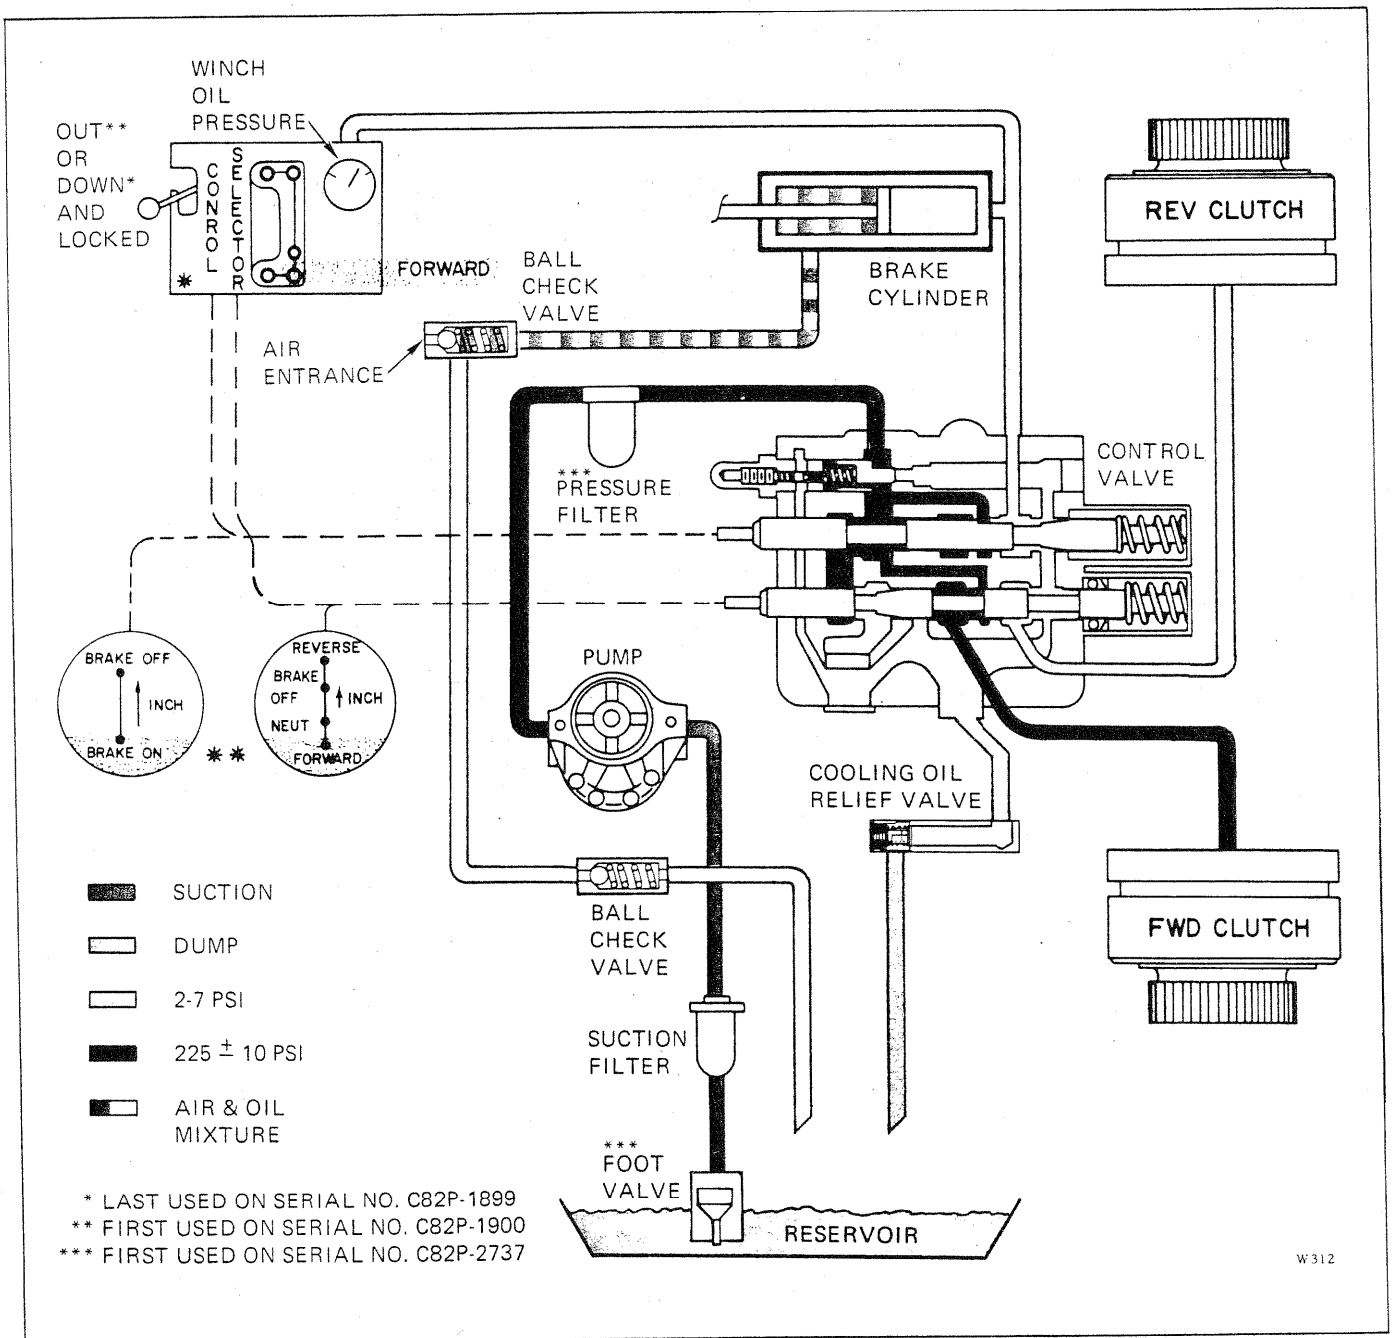

FIGURE 1-21. HYDRAULIC FLOW DIAGRAM, FORWARD INCHING, BRAKE APPLIED
1-42. HYDRAULIC SYSTEM IN FORWARD INCHING, BRAKE APPLIED. (See Figure 1-21.) On Early Production Handling Gear, the system is placed in FORWARD INCHING OPERATION by: (1) Moving the Control Lever Up and locking it in place and (2) holding the Selector Lever in FORWARD. On later Production Handling Gear, this is accomplished by: (1) Lifting the Stop Latch away from the Inching Lever which will allow the Inching Lever to spring-return to BRAKE ON and (2) Holding the Selector Lever in FORWARD. When the Control Lever is Up and locked in place or the Inching Lever is in the BRAKE ON position, the inching spool is spring-returned to its Neutral position. With the Selector Lever in the FORWARD position, the selector spool is pushed to its extreme In position. With the spools in these positions, the pump draws oil from the reservoir through the suction filter and delivers it to the control valve inlet. Oil will then enter the control valve inlet and flow past the inching spool to the selector spool. At this time, the oil is dead-headed since the selector spool has been pushed back into the valve, closing off the passage between the valve body and the spool. The oil will back-up and fill the cavities leading to the forward clutch and the brake cylinder. As shown in Figure 1-21, the entrance to the brake port is much smaller than the exit from the brake port. Therefore, the oil entering the brake port will not increase to a high pressure in that port. Pressure upstream of the brake port will continue to increase until it is relieved at the high-pressure relief valve. This pressure engages the forward clutch. Overflow from the pilot operated relief valve is regulated by the cooling oil relief valve. This low pressure oil circulates to the reverse clutch to cool the clutch discs. At this time, the forward clutch has been applied, but the brake has not been released. The torque converter on the tractor will, therefore, assume a stalled condition.